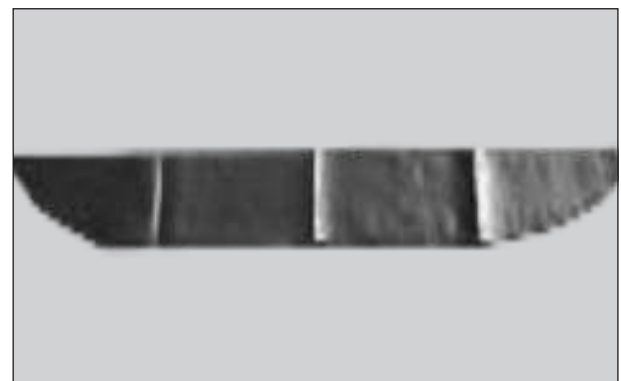

Fig. 9.19
- Soft top canvas small piece shall be in sunlight to 3 hrs minimum. (Fig. 9.19)